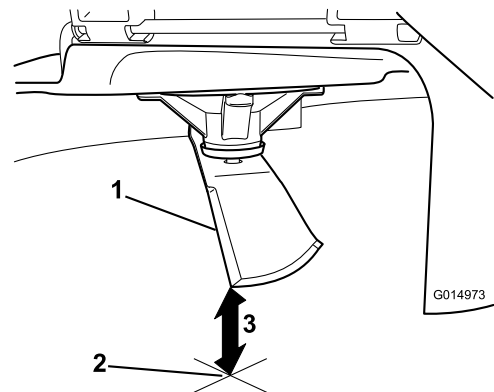

Figure 90
5. Measure from the tip of the blade to the flat surface (Figure 90).